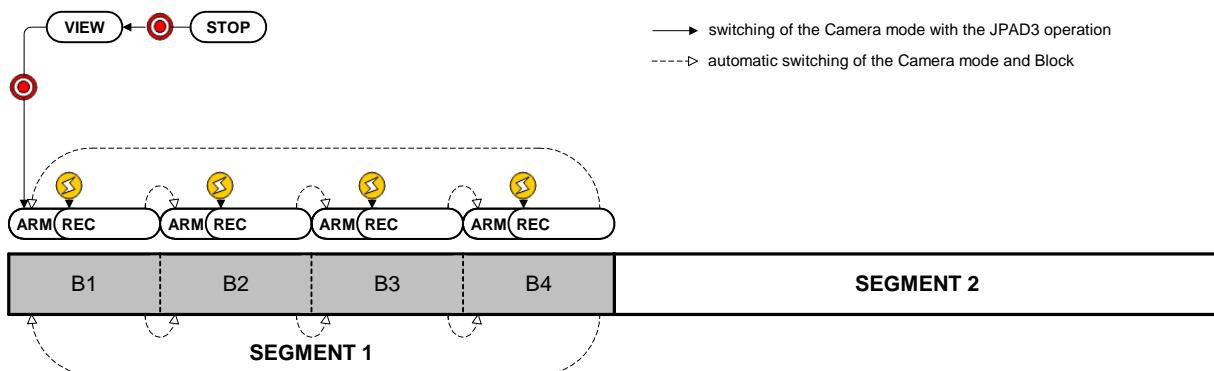

Figure 3-39 Multi Trigger Recording (MULTI(C), Number of Segments: 2, Number of Blocks: 4)
Figure 3-39 shows how to switch modes with the J-PAD3 during MULTI(C) recording (top of the figure) and saving in the memory (bottom of the figure).